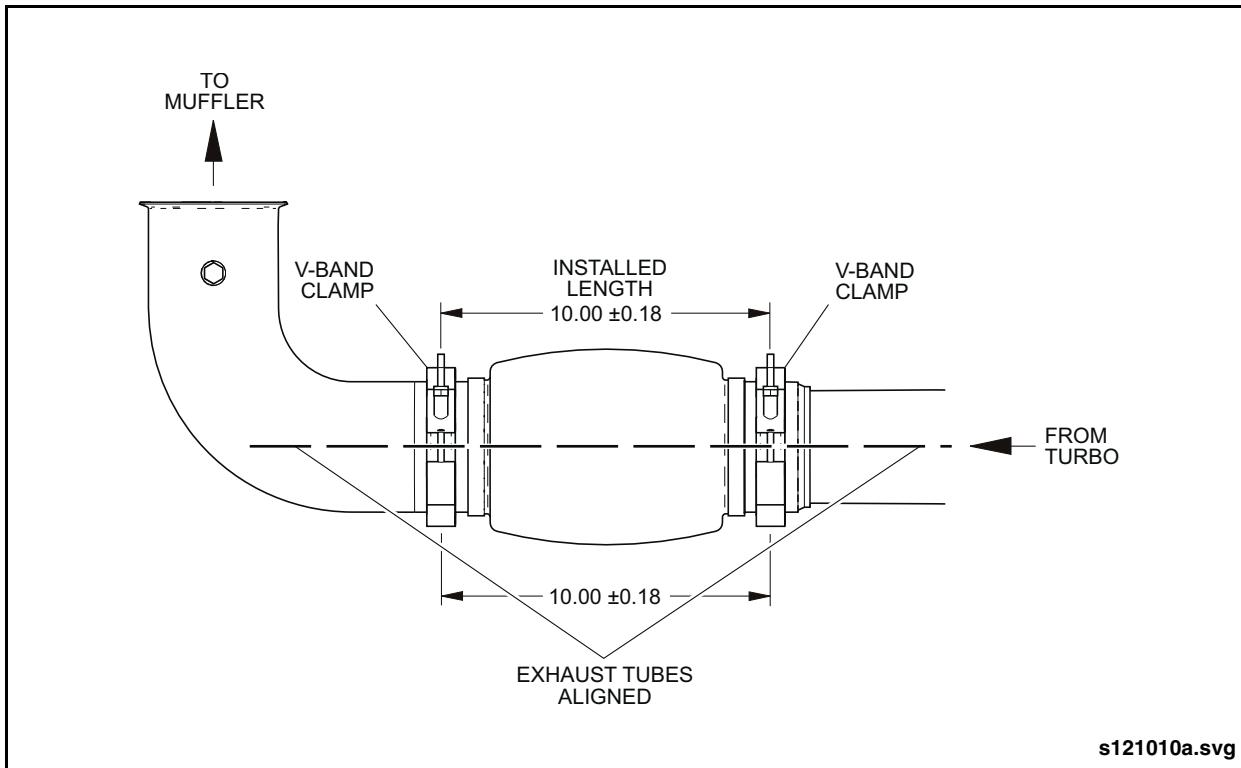

Fig. 4-27: Exhaust Flex Connector Installation
- d. The exhaust flex connector length shall be  $10.00 \pm 0.18$ " when measured between the crimping rings on either end. Adjust muffler exhaust tube as required to achieve this dimension. See "Fig. 4-27: Exhaust Flex Connector Installation" on page 46.